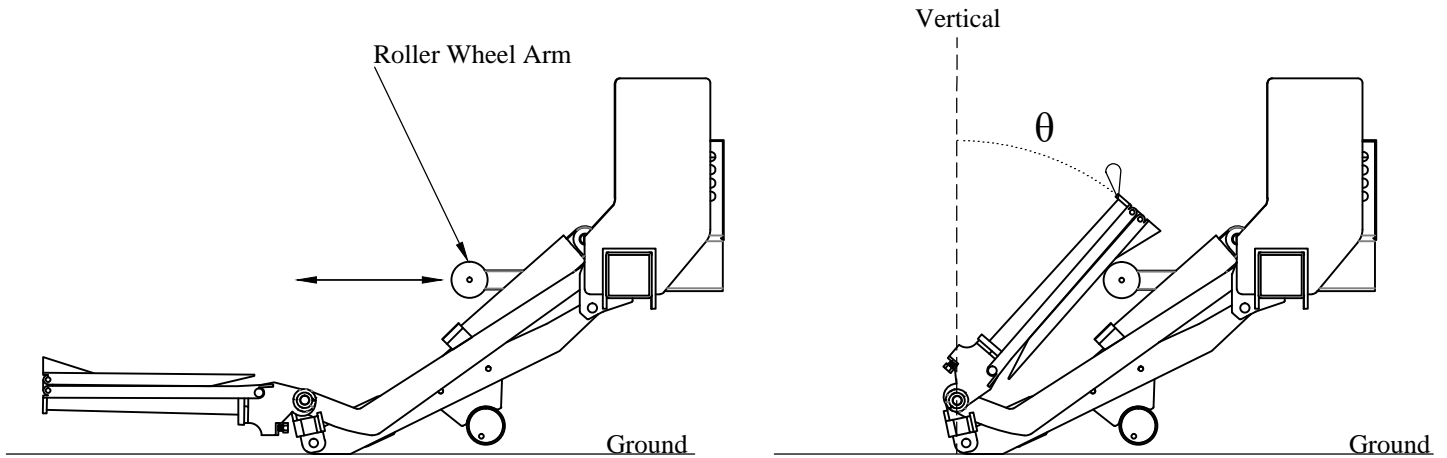

Figure 24: Roller Wheel Arm Adjustment.
- 26. Adjust** the roller wheel arm to make the platform easier to manually unfold by sliding it in and out until the platform angle θ is short of vertical. Be careful the platform does not fall open when the truck is on an incline (Figure 24).